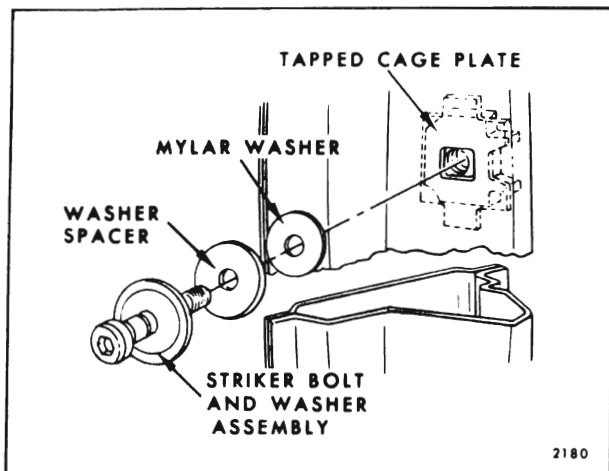

Fig. 6-12 - Door Lock Striker Installation
2. Insert a 5/16" wrench into hex-head fitting in head of striker bolt and remove striker (Fig. 6-12).
3. To install, reverse removal procedure. Make certain striker is positioned within pencil mark. Also, make certain that paint protecting plastic washer is installed (Fig. 6-12).